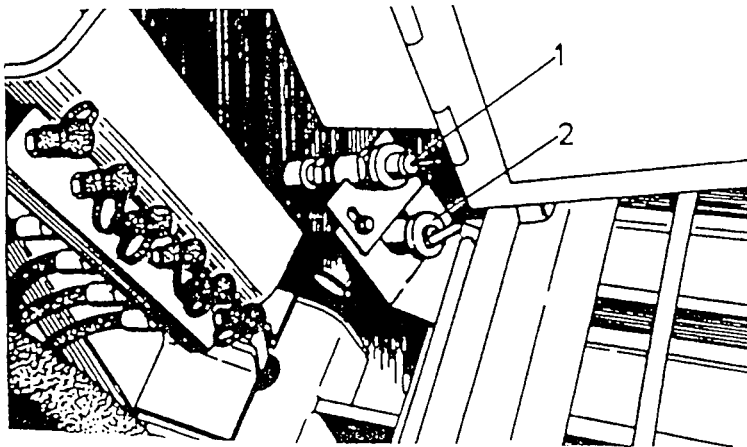

Fig. 5.44. Rear Frame Oil Level
1. To drain oil, remove the drain plug in the rear frame. For environmental safe draining the transmission system oil remove protective cover of receiver (Fig. 5.44) and connect nozzle of oil draining pump.